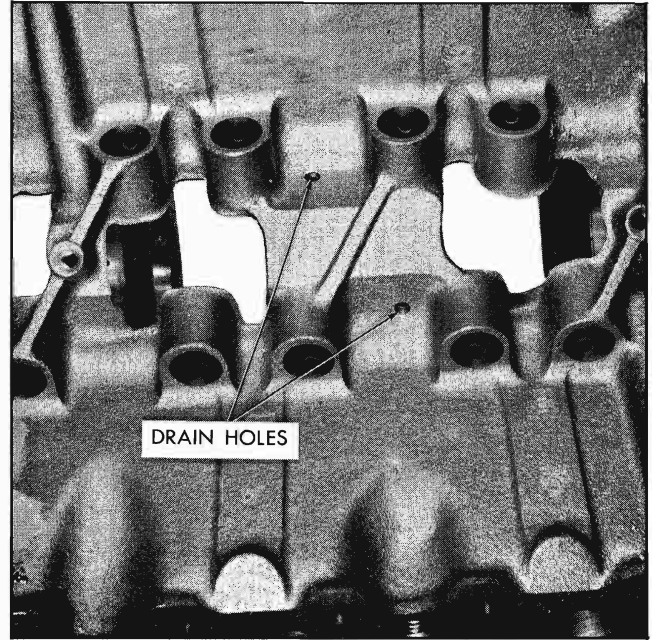

Fig. 6-80 Drain Holes in Lifter Galley
h. Use wire to check two drain holes in lifter galley (Fig. 6-80).